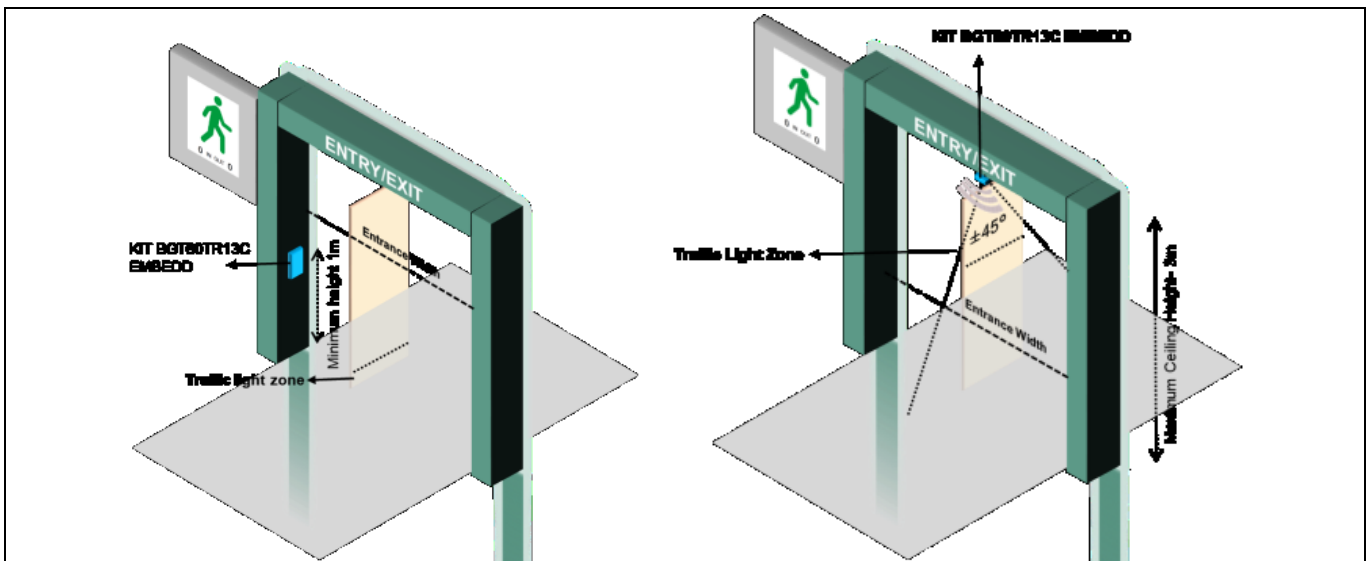

Figure 32 Radar mounted on the side of the door (left) and at the top of the door with the longer edge perpendicular to the passage (right)
- Field of view (FoV) is shown in Figure 32, below.